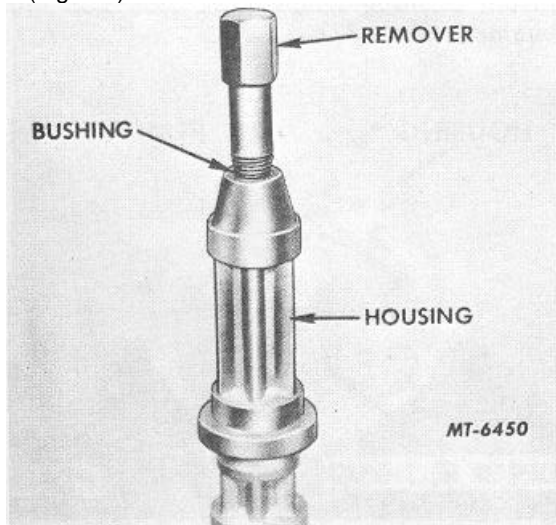

Fig. 39 Bushing Remover SE-1955-5 Installed in Lower Bushing
3. Install bushing remover SE-1955-5 in lower bushing (Fig. 39).